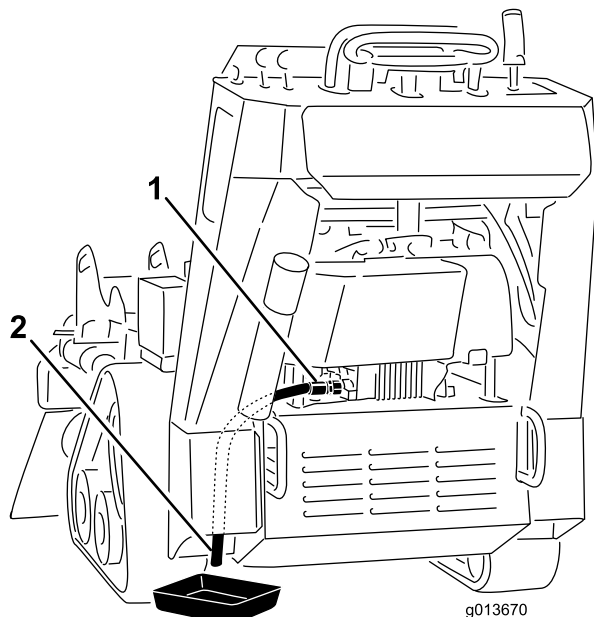

Figure 33
5. Place a pan below the drain hose. Rotate the oil drain valve to allow oil to drain (Figure 33).